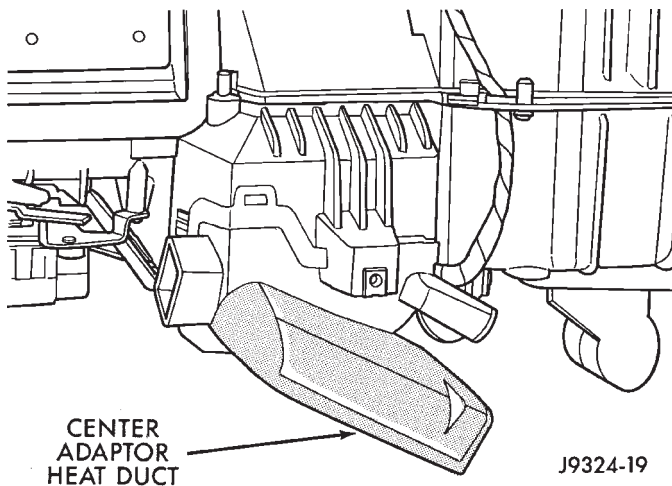

Fig. 24 Center Adaptor Heat Duct
- (4) Disconnect the electrical connector or the vacuum line.
- (5) Remove the retaining screws holding the two halves together. Remove the center adaptor heat duct (Fig. 24) and remove the screw.